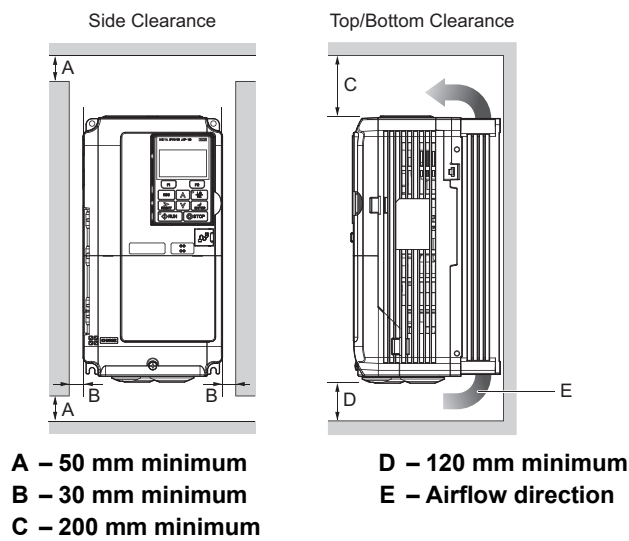

Figure 2.2 Correct Installation Spacing
*Figure 2.2* and *Figure 2.3* show the installation distance required to maintain sufficient space for airflow and wiring.